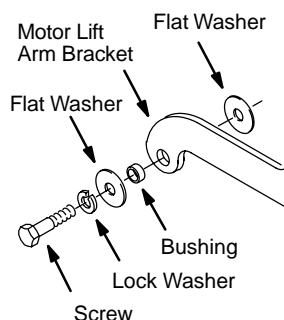

Fig. 8
10. Place motor back into position and fasten brackets to machine as shown. Put smooth side of washers against bushing. Using a torque wrench, tighten screws to 25 ft lbs (34 N-m) (Figure 8).